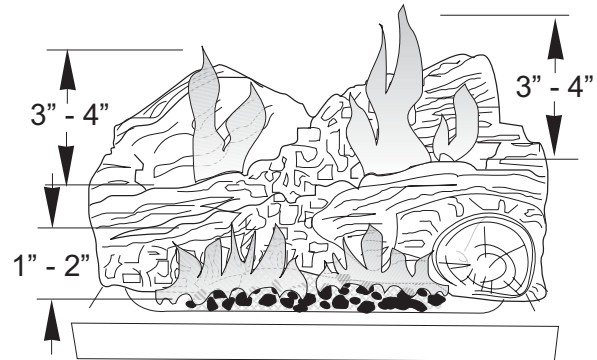

Figure 25. Correct flame appearance on High setting after approximately 15 to 20 minutes operation.
**3. BURNER ADJUSTMENT:** The GF3 DVII Allagash gas stove is equipped with a variable gas control valve. This valve provides easy adjustment of the flame height appearance and heat output. To adjust the flame between the HI and LOW setting, rotate the HI/LOW knob, located in the center of the valve face. Flame height will adjust approximately  $1.0$ " to  $1.5$ " between the HI and LOW settings. See Figure 25.